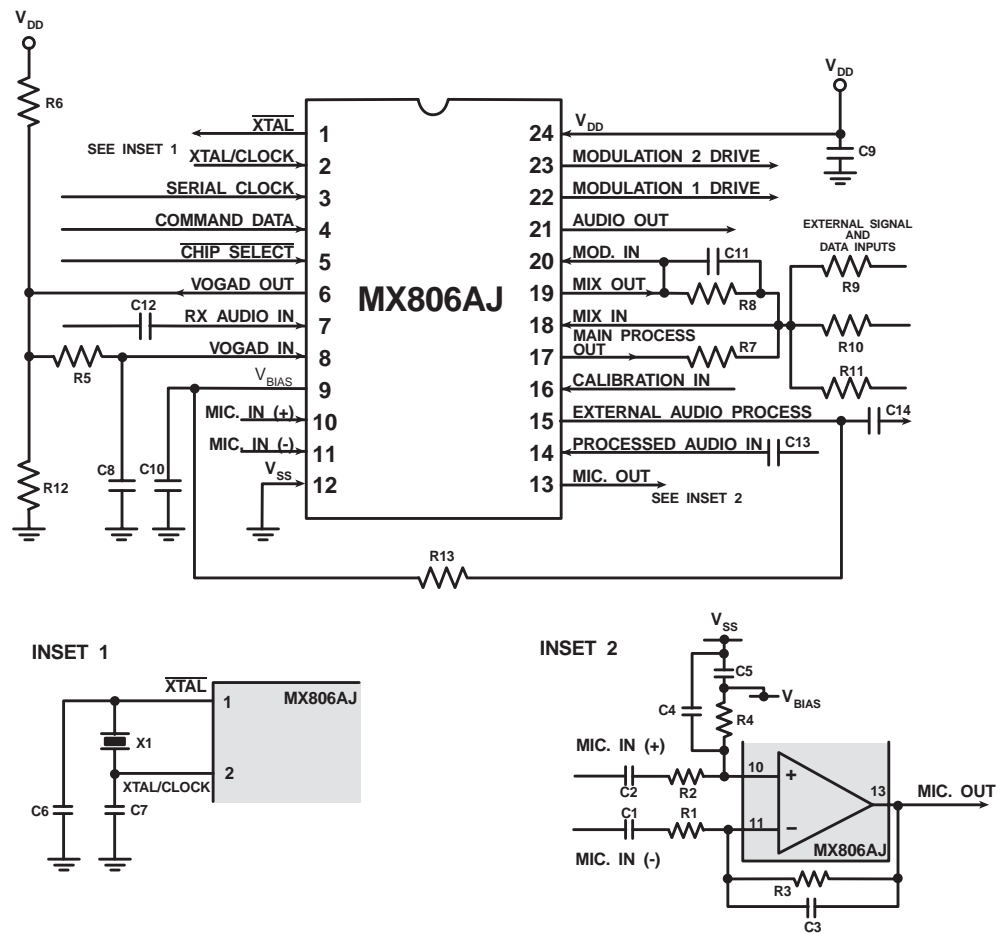
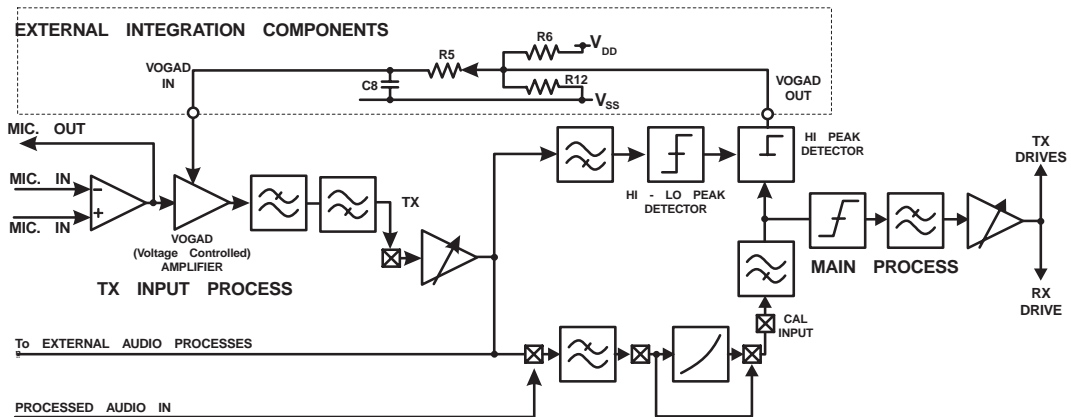

Figure 2: Recommended External Components
Figure 3: VOGAD Sensors and Timing Components (from Figure 5)
| 4.2.1 VOGAD Components Calculations – Figure 2 and Figure 5..... | 8 |
| 1 | $\overline{\text{Xtal}}$ | The output of the 4.032MHz on-chip clock oscillator. External components are required at this output when a Xtal is used. See Figure 2. |
| 2 | Xtal/Clock | The input to the on-chip 4.032MHz clock oscillator inverter. A 4.032MHz Xtal or externally derived clock should be connected here. See Figure 2. This clock provides timing for on-chip elements, filters, etc. |
| 6 | VOGAD OUT | The error-voltage output of the selected VOGAD sensor. This output, with external attack and decay setting components, should be connected as in Figure 2 and Figure 3, to the VOGAD In pin. |
| 8 | VOGAD In | The gain control signal from the selected VOGAD sensor (VOGAD Out) to the Input Process voltage-controlled amplifier. The required sensor is selected via a Mode Command. The choice of two sensors enables gain control from either the Input Process or an External Process. External attack and decay setting components should be applied as recommended. See Figure 2 and Figure 3. |
| 9 | V_{BIAS} | The output of the on-chip analog circuitry bias system, held internally at $V_{\text{DD}}/2$. This pin should be decoupled to V_{SS} by capacitor C10. See Figure 2. |
| 10 | Mic In (+) | The non-inverting input to the microphone Op-Amp. This input requires external components for Op-Amp gain/attenuation setting as shown in Figure 2. |
| 11 | Mic In (-) | The inverting input to the microphone Op-Amp. This input requires external components for Op-Amp gain/attenuation setting as shown in Figure 2. |
| 13 | Mic Out | The output of the Microphone Op-Amp, used with the Mic In (-) input to provide the required gain/attenuation using external components as shown in Figure 2. The external components shown are to assist in the use of this amplifier with either inverting or non-inverting inputs. During Powersave (Volume Command this output is placed at V_{SS} .) |
| 17 | Main Process Out | The output of the Main Process stage. This output should be mixed with any additional system audio inputs (Audio, Sub-Audio Signaling, MSK) in the on-chip Modulation Summing Amplifier. External components shown in Figure 2 should be used as required. |
| 18 | Sum In | The input and output terminals of the on-chip Modulation Summing Amplifier. External components are required for input signals and gain/attenuation setting as shown in Figure 2. For single-signal, no gain requirements, Main Process Out may be linked directly to Modulation In. |
The overall Gain Control system of the MX806A consists of 2 selectable signal peak detectors whose output is fed via external integrating components to adjust the gain of the Voltage Controlled Amplifier positioned in the TX Input Process Path. The transmit input signals is presented to Peak Detector 1 or 2. The Peak Detectors are enabled individually by a Mode Command. When the input signal exceeds the peak - to - peak threshold of the detector, a 5-volt level is produced at the VOGAD Out pin. This level remains for as long as the signal exceeds the threshold. The integrated level to the VOGAD In pin causes the Voltage Controlled Amplifier gain to be reduced. As can be seen from Figure 3 and Figure 5, Peak Detector 1 allows control of the audio level to the external audio process and Peak Detector 2 allows control of transmit deviation levels.
VOGAD attack and decay times are set using the external components shown in Figure 2 and Figure 3. They are calculated as described below.
4.2.1 VOGAD Components Calculations – Figure 2 and Figure 5